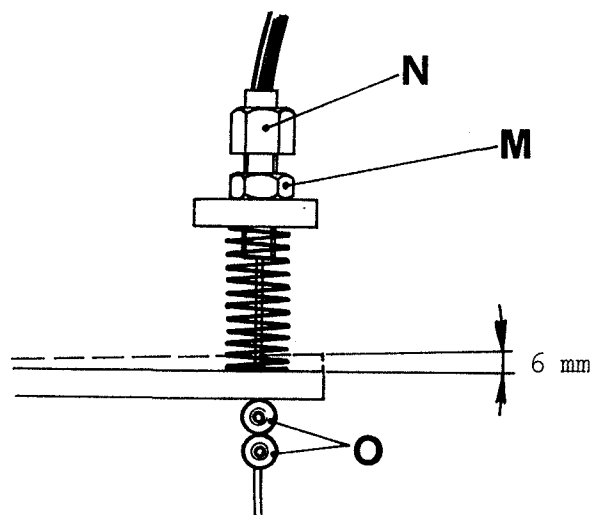

Fig. 1
C. Kupplung (Fig. 1)
C. Embrayage (Fig. 1)
C. Frizione (Fig. 1)